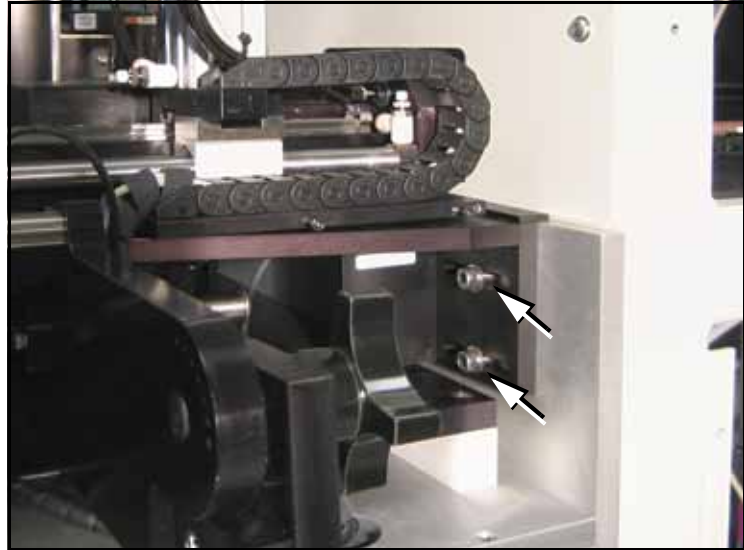

Figure 4-34: Bracket support fasteners for the Tape Output Head Assembly.
- 4c. (Some assemblies only) Unscrew two SHCSs mounting the Tape Out PNP head Assembly to the Option Bay for access to more cover screws (3/16 inch Hex Key). See Figure 4-34. Without damaging the probe, slide the bracket outboard and tip it out of the way. (Wires are still attached.)